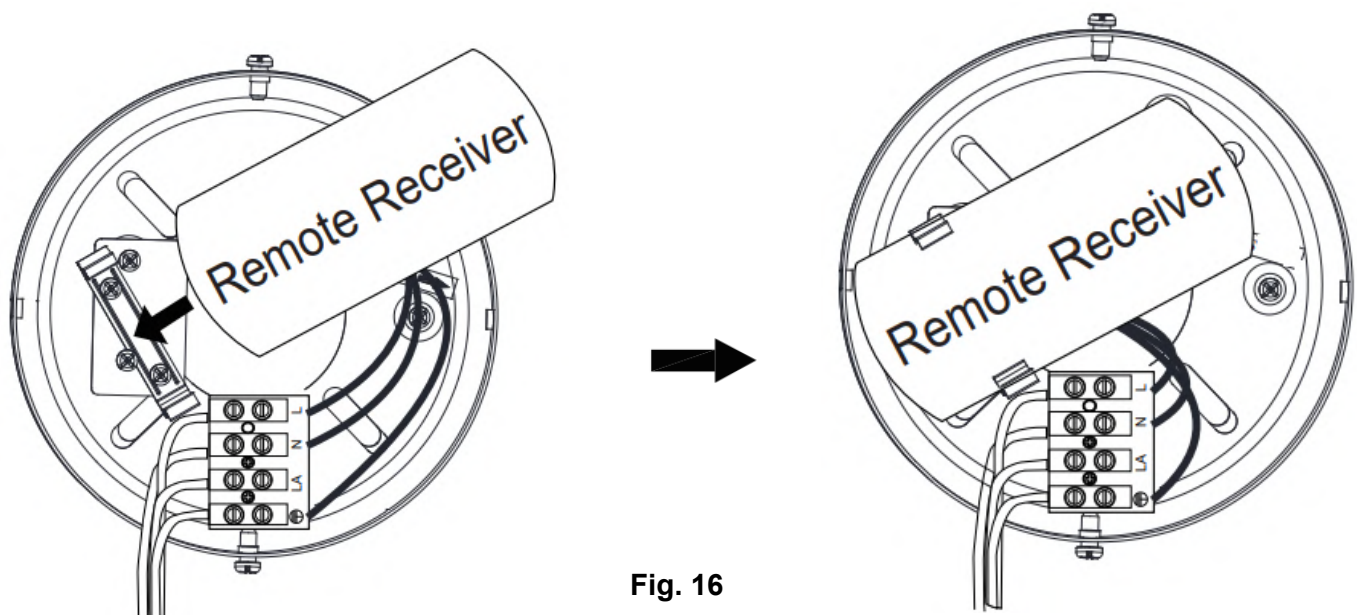

Fig. 16
- If your fan comes with a remote and receiver, carefully insert the receiver into the holder on the mounting bracket. Take care not to damage or loosen any of the wiring. (Fig.16)